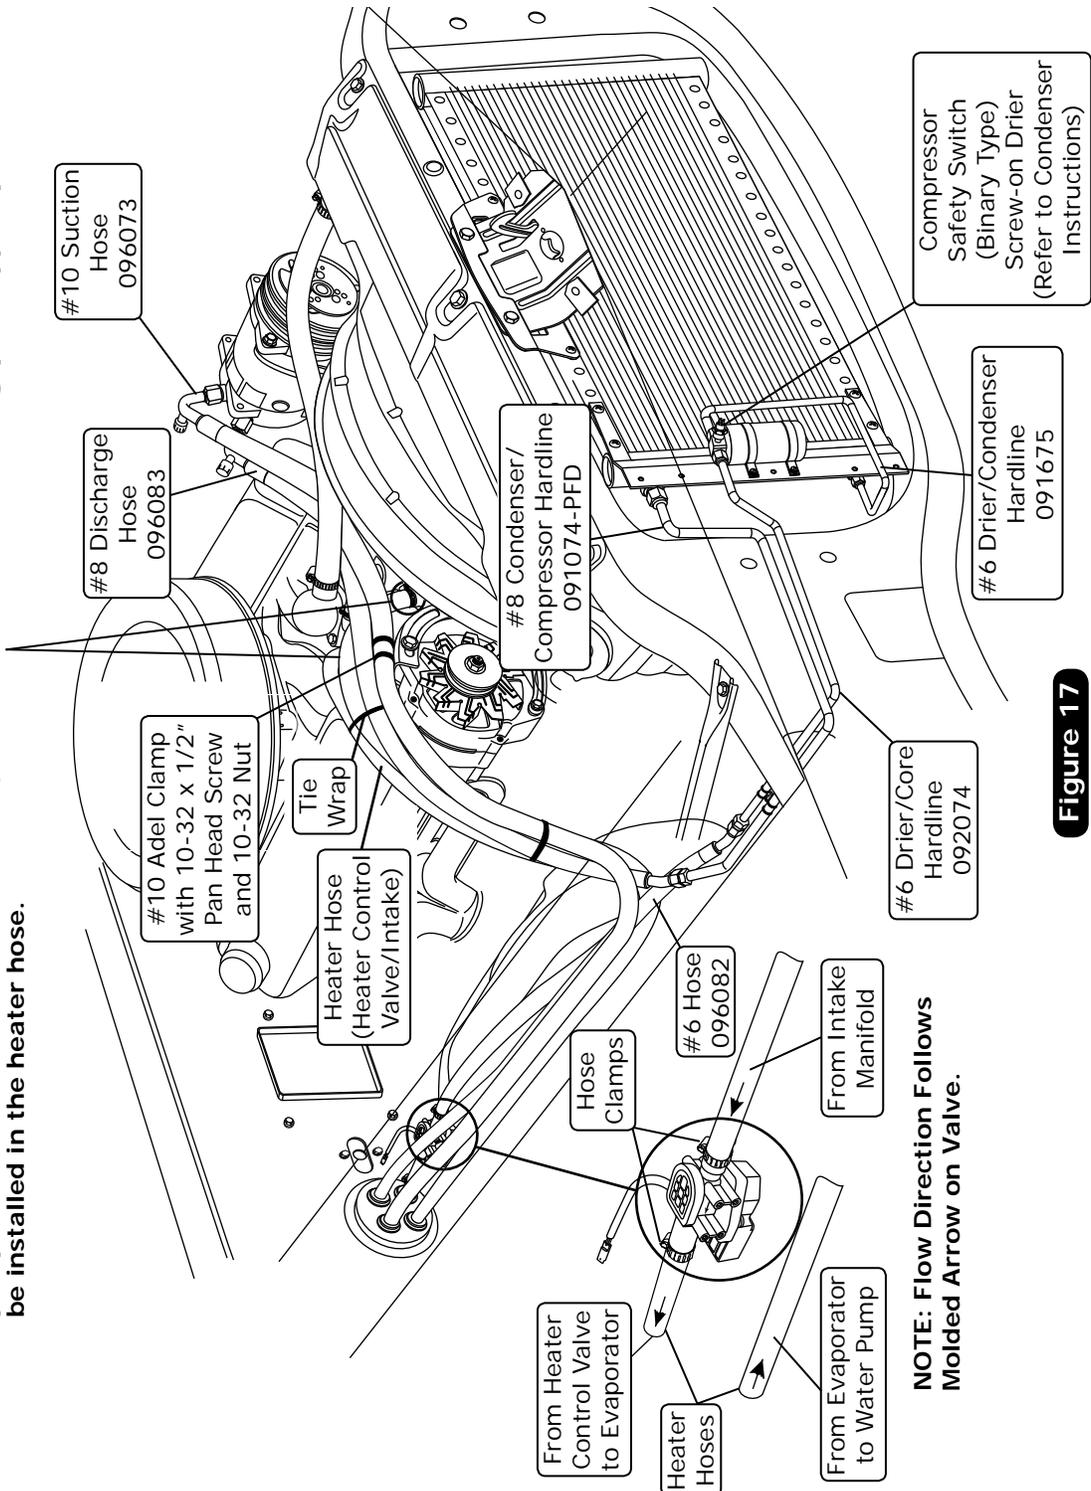
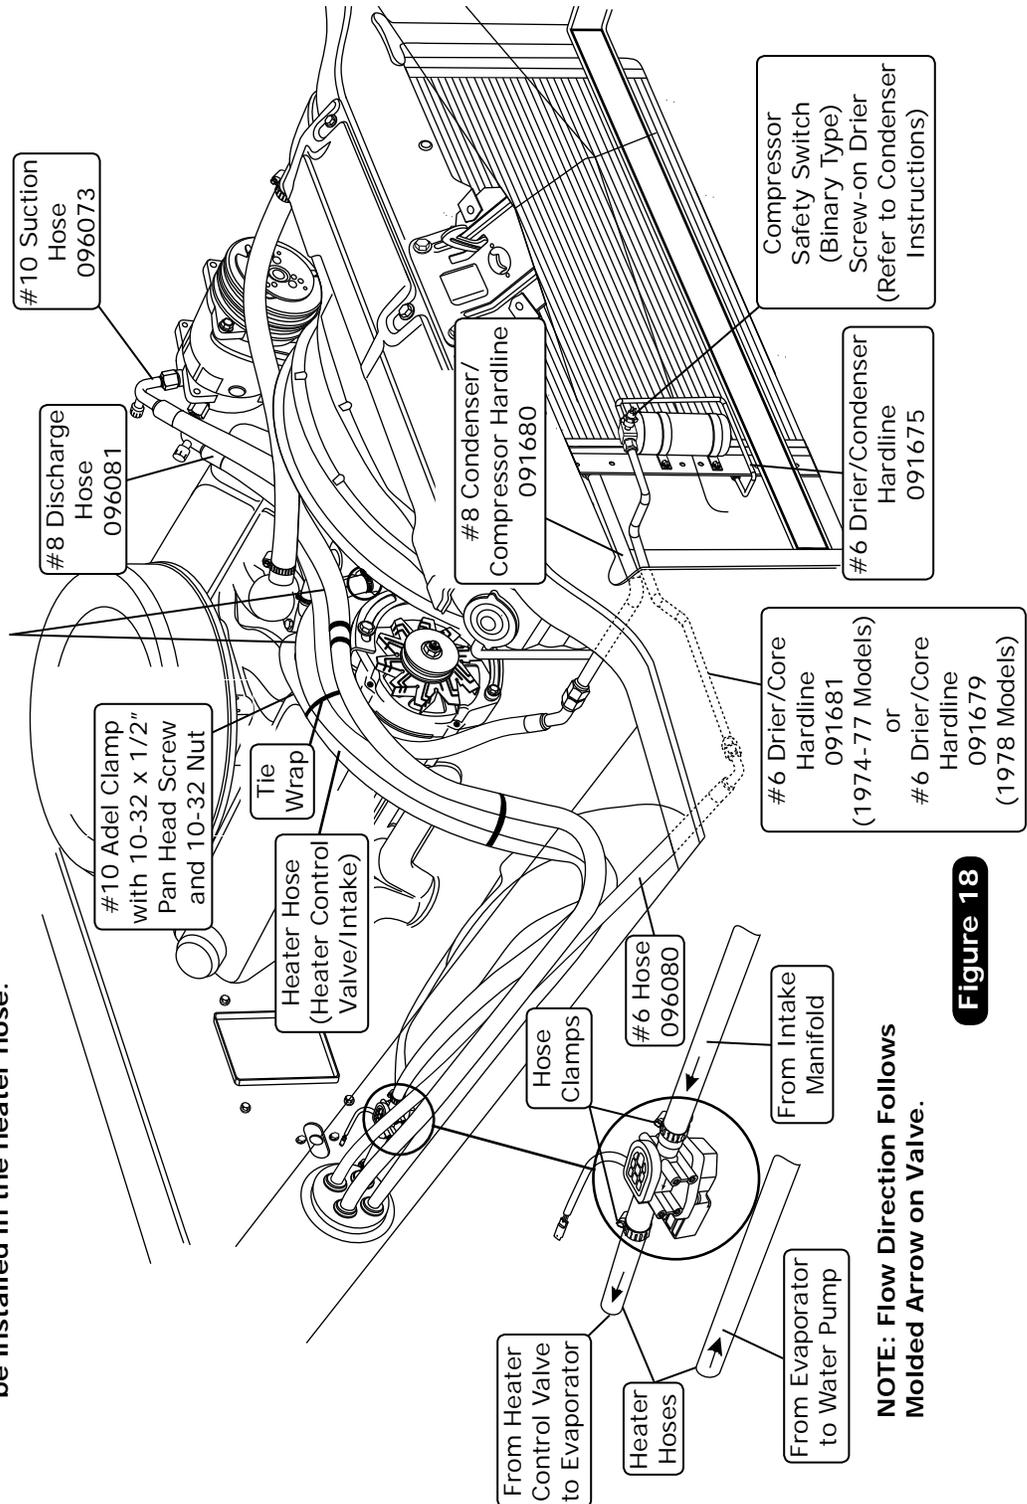

Figure 17
Figure 18
1. Locate the #8 compressor A/C hose. Lubricate (2) #8 O-rings (See Figure 16, above) and connect the 90° female fitting with service port to the #8 discharge port on the compressor. Then, route the 45° female fitting to the #8 condenser hardline coming through the core support (See Figure 17, Page 17). Tighten each fitting connection as shown in Figure 16, above.
2. Locate the #10 compressor A/C hose. Lubricate (2) #10 O-rings (See Figure 16, above) and connect the #10 135° female fitting with service port to the #10 suction port on the compressor. Then, route the 90° female fitting to the #10 fitting on the evaporator (See Figure 12a, Page 13, and Figure 17, Page 17). Tighten each fitting connection as shown in Figure 16, above.
3. Locate the #6 evaporator A/C hose. Lubricate (2) #6 O-rings (See Figure 16, above) and connect the 45° female fitting to the #6 hardline coming through the core support from the drier. Then, route the 90° female fitting to the #6 fitting on the evaporator (See Figure 12a, Page 13, and Figure 17, Page 17). Tighten each fitting connection as shown in Figure 16, above.
1. Locate the #8 compressor A/C hose. Lubricate (2) #8 O-rings (See Figure 16, above) and connect the 90° female fitting with service port to the #8 discharge port on the compressor. Then, route the 45° female fitting to the #8 condenser hardline coming through the core support (See Figure 18, Page 18). Tighten each fitting connection as shown in Figure 16, above.
2. Locate the #10 compressor A/C hose. Lubricate (2) #10 O-rings (See Figure 16, above) and connect the #10 135° female fitting with service port to the #10 suction port on the compressor. Then, route the 90° female fitting to the #10 fitting on the evaporator (See Figure 12a, Page 13, and Figure 18, Page 18). Tighten each fitting connection as shown in Figure 16, above.
3. Locate the #6 evaporator A/C hose. Lubricate (2) #6 O-rings (See Figure 16, above) and connect the 90° female fitting to the #6 hardline coming through the core support from the drier. Then, route the other 90° female fitting to the #6 fitting on the evaporator (See Figure 12a, Page 13, and Figure 18, Page 18). Tighten each fitting connection as shown in Figure 16, above.
1. Route a piece of heater hose from the water pump to the upper heater core fitting as shown in Figure 12a, Page 13, and Figure 17, below. Secure using hose clamps.
2. Route a piece of heater hose from the intake to the lower heater core fitting as shown in Figure 12a, Page 13, and Figure 17, below. **NOTE: Install the heater control valve in line with the intake manifold (pressure side) heater hose, and secure it using hose clamps as shown in Figure 17, below. Also note proper flow direction.**
1. Route a piece of heater hose from the water pump to the upper heater core fitting as shown in Figure 12a, Page 13, and Figure 18, below. Secure using hose clamps.
2. Route a piece of heater hose from the intake to the lower heater core fitting as shown in Figure 12a, Page 13, and Figure 18, below. **NOTE: Install the heater control valve in line with the intake manifold (pressure side) heater hose, and secure it using hose clamps as shown in Figure 17, below. Also note proper flow direction.**